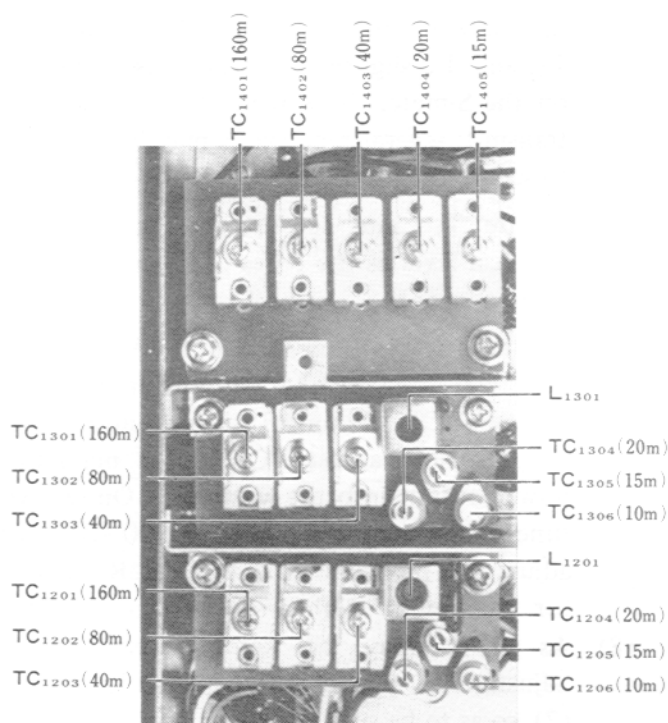

Figure 21
- (3) Close the PTT switch, and dip the PLATE control for a minimum IC reading on the transceiver meter (the LOAD control should be set to the nominal setting shown in the "operation" section of this manual). Now adjust TC_{1403} for maximum power output into the wattmeter.
- (4) Set the BAND switch to 10D, the PRESELECTOR control to 10 (on the scale of 1-10), and reduce the setting of the DRIVE CONTROL. Preset TC_{1206} to the $\frac{1}{2}$ position, and TC_{1306} to the $\frac{1}{3}$ position, as shown in Figure 21. Set the LOAD control to the correct position, and close the PTT switch. Dip the PLATE control for minimum IC reading on the transceiver meter. Now advance the DRIVE control to the point where maximum power output is obtained (do not go beyond the maximum PO point). Adjust the cores of T_2 and T_3 for maximum power output. Do not exceed the 10 second key down limitation during this adjustment.
- (5) On receive, set the RF GAIN control fully clockwise, and turn the marker on. Tune in the marker signal at 30.000 MHz, and adjust T_2 and T_3 slightly for maximum deflection on the S-meter. Now recheck the peaking on transmit; several repetitions may be necessary to secure the proper ratio.
- (6) Locate T_1 , and set its core to the same physical level as the cores of T_2 and T_3 were set in step (5).
- (7) Set the BAND switch to 10A, the VFO dial to 000, and tune up the transmitter. Peak the PRESELECTOR control for maximum power output. Now adjust TC_{1306} for maximum power output into the wattmeter. On receive, tune to the marker signal at 28.000 MHz, and adjust TC_{1206} (and TC_{101} on the RF UNIT) for maximum deflection of the S-meter.
- (8) As there may be some interaction of adjustments, please repeat steps (3) through (7), so as to be sure of proper tracking.
- (9) Adjust the final amplifier neutralization, as described on page 3-35
- (10) Again recheck steps (3) through (7).
- (11) Now you are ready to align the other bands. Set the BAND switch to 15, the VFO dial to 000, and the PRESELECTOR control to 8.5 (on the scale of 1-10). Set the LOAD control to the proper position. Close the PTT switch, and dip the PLATE control for minimum IC indication on the transceiver meter. Now adjust TC₁₄₀₅ and TC₁₃₀₅ for maximum power output into the wattmeter. On receive, tune to the marker signal at 21.000 MHz, and peak TC₁₂₀₅ for maximum S-meter deflection on the marker signal.
- (12) Set the BAND switch to 20, the VFO dial to 000, and the PRESELECTOR control to 8 (on the scale of 1-10). Set the LOAD control to the proper position. Close the PTT switch, and dip the PLATE control for minimum IC indication on the transceiver meter. Now adjust TC₁₄₀₄ and TC₁₃₀₄ for maximum power output into the wattmeter. On receive, tune to the marker signal at 14.000 MHz, and adjust TC₁₂₀₄ for maximum S-meter deflection on the marker signal.
- (13) Set the BAND switch to 40, the VFO dial to 000, and the PRESELECTOR control to 6 (on the scale of 1-10). Set the LOAD control to the correct position. Close the PTT switch, and dip the PLATE control for minimum IC